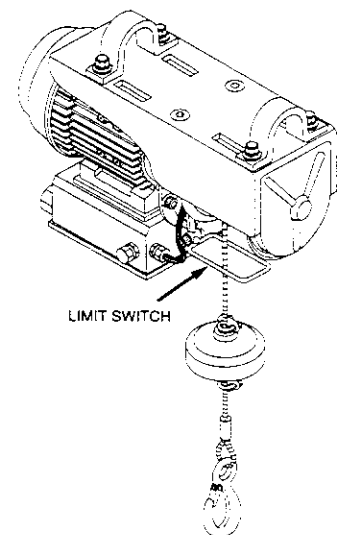

Figure 4 - Limit Switch Location
3. While hook is moving upward, raise limit switch paddle (See Figure 4).